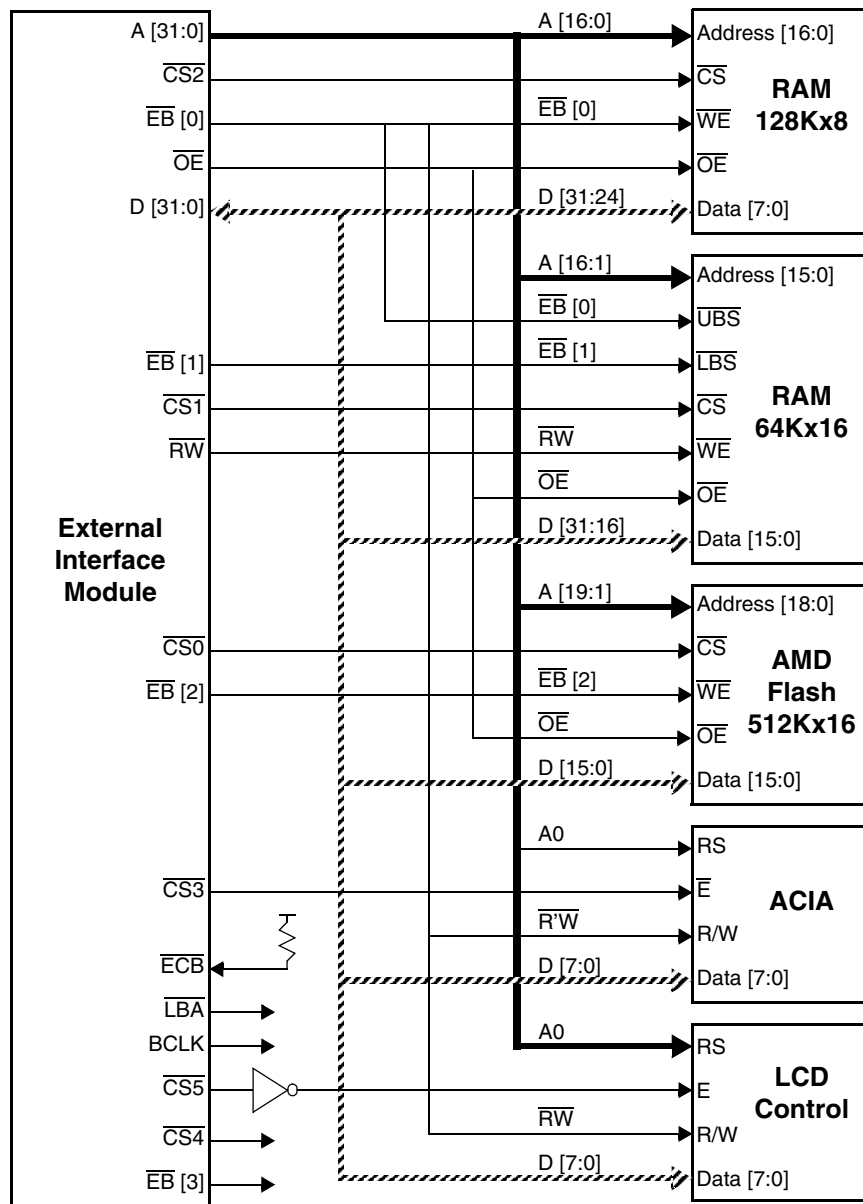

Figure 11-1. Example of EIM Interface to Memory and Peripherals
- Figure 11-1 illustrates a typical set of EIM interfaces to external memory and peripherals.